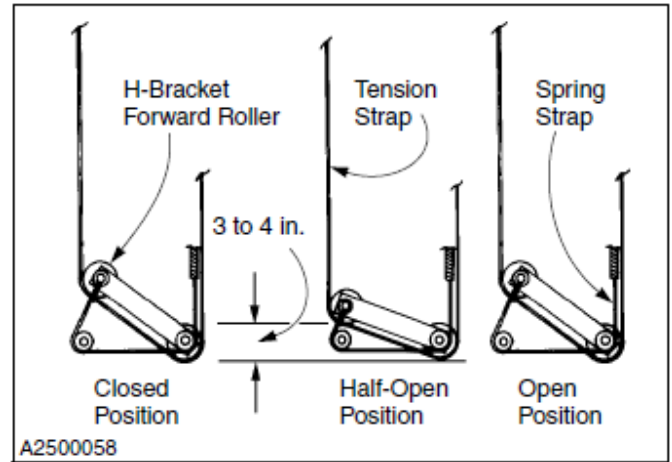

Figure 32
2. Check the position of the H-bracket forward roller in each side column. They should both be 3 to 4 in. above the side column base plate. (See Figure 32)
3. Run the door through a complete cycle. Check the position of the H-brackets when the door reaches the full-open and -closed positions. If either H-bracket is not as shown in Figure 32, adjust the tension strap. (See "TENSION STRAP ADJUSTMENT" on page 24)